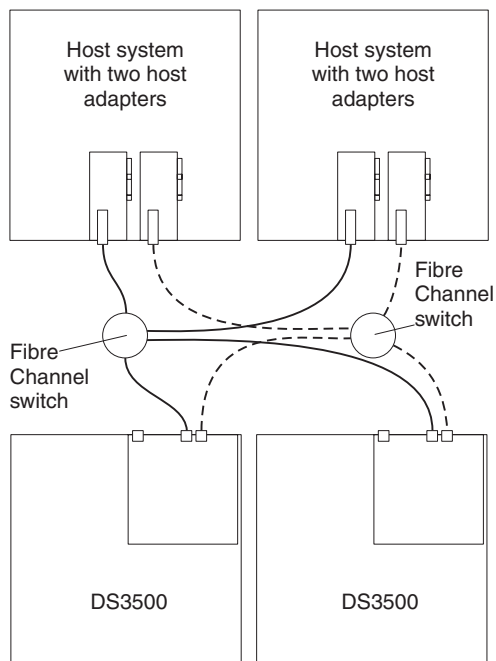

Figure 3-48. Example of two storage subsystems in a dual Fibre Channel SAN environment
- Two storage subsystems in a dual SAN fabric configuration, as shown in Figure 3-48 on page 3-38
In Figure 3-48 on page 3-38, the Fibre Channel switches are not connected together. Each switch forms its own SAN fabric.